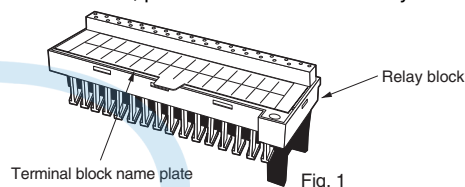

Fig. 1
- The terminal block name plate is stored under the relay block as shown in Fig. 1.